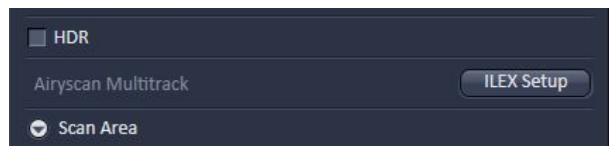

Fig. 142 Airyscan: ILEX Setup activation
- To activate ILEX, use the **ILEX Setup** button (Fig. 142) at the Airyscan multitrack section in the Acquisition mode dialog.